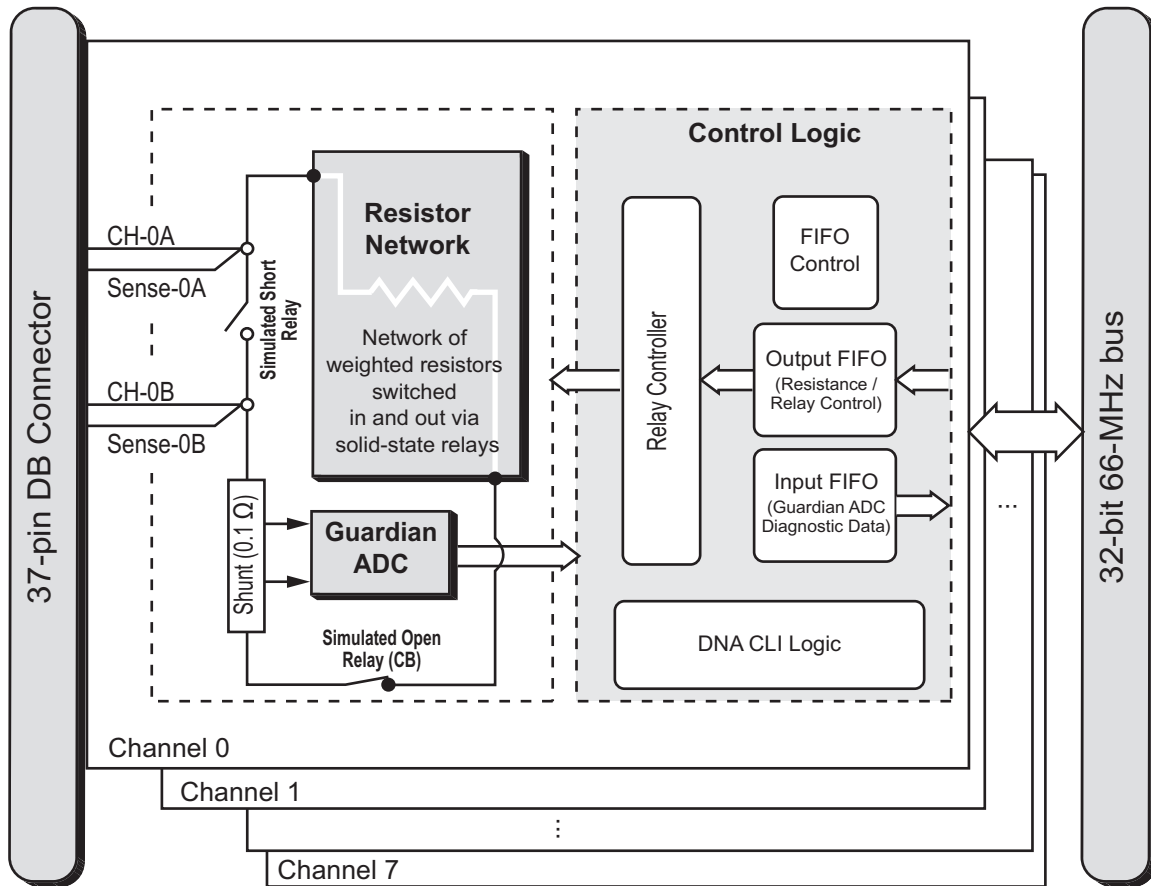

Figure 1-1 Block Diagram of the RTD-388 Board
Figure 1-1 shows a block diagram of the architecture of the RTD-388 board.
Encoded resistance data is written to hardware, stored in a 256-word FIFO onboard the RTD-388 (see **Figure 1-1**), and accessed by board logic to set output resistance.
The Guardian ADC measures I_{in} current through the 0.1 Ω onboard shunt resistor, as well as provides temperature readings via an on-die temperature sensor (see **Figure 1-1**).
Each channel includes an in-series relay that can be user-controlled for open circuit simulation. The relay also acts as an over-current and/or over-temperature circuit breaker, (refer to **Figure 1-1** for location).
Each channel includes an additional relay located between Terminal A and Terminal B nodes that can be user-controlled for short circuit simulation (refer to **Figure 1-1** for location).
2. The sense outputs are connected directly to the standard outputs. For example Sense-7A is connected to CH-7A on the DNx-RTD-388's printed circuitry board, and Sense-1B is connected to CH-1B (refer to **Figure 1-1**). The sense leads are provided as a convenience to those wiring the board in 3- and 4-wire modes.